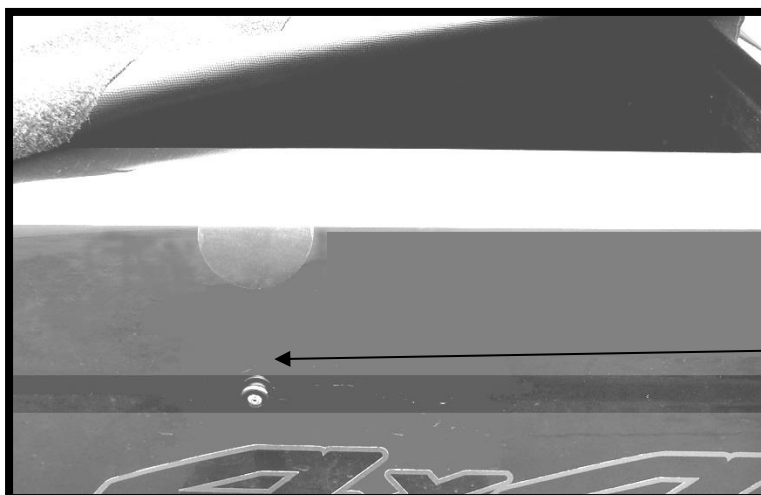

Figure 3
8. To fit the rope buttons to tub, use the panel crease in both the tailgate and side panels as a reference line, **See Figure 3.** Starting with the **tailgate**, line up vertically each button to each ring grip and drill and rivet each button outside the crease, so that the top edge of the button is in line with the top edge of the crease. For the **side panels**, follow the same procedure as with the tailgate, drill and rivet buttons alternating from one side to other side of the tub.